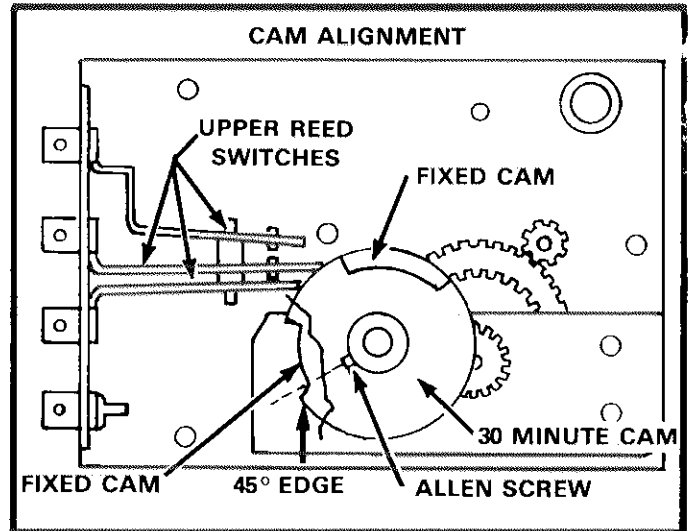

FIGURE 7
- 6 - Align the allen screw on the 30 minute cam with the 45° edge of the fixed cam as shown in figure 7. Tighten the allen screw.